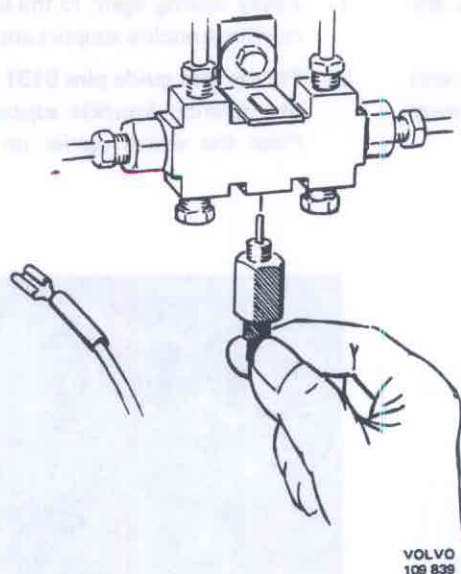

Fig. 63-17 Contact for pressure difference
6. Screw tight the bracket for the brake lines and connect up the brake lines. Bleed the wheel cylinders whose brake lines have been disconnected. During the bleeding the contact for the pressure difference should be removed, see Fig. 63-17. If a bleeder unit is used, the working pressure should be 0.2 MPa (2 kp/cm² = 28 lbf/in²). For more detailed instructions concerning the bleeding, see Part 5.